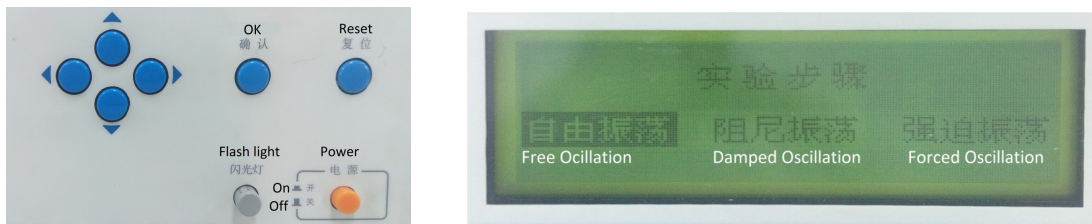

Figure 4: The panel of the meter (left) and the 3 operation modes (right).
The panel of the meter is shown in Figure 4. The switches are on the panel are used for the control of the pendulum and the power source. Use the direction buttons to highlight different selections and use “OK” button to choose. The 3 operation modes are: “Free Oscillation”, “Damped Oscillation” and “Forced Oscillation”. Our experiment will be done using the 3 modes.
2. Press “OK” button until you see the mode selection screen (Figure 4).